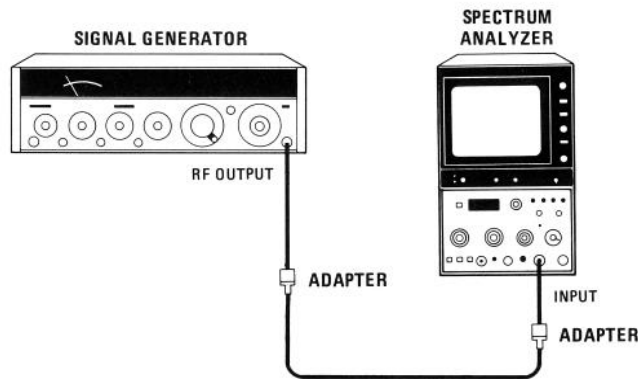

FIGURE 4-7. NOISE SIDEBAND TEST SETUP
2. Connect equipment as shown in Figure 4-7.